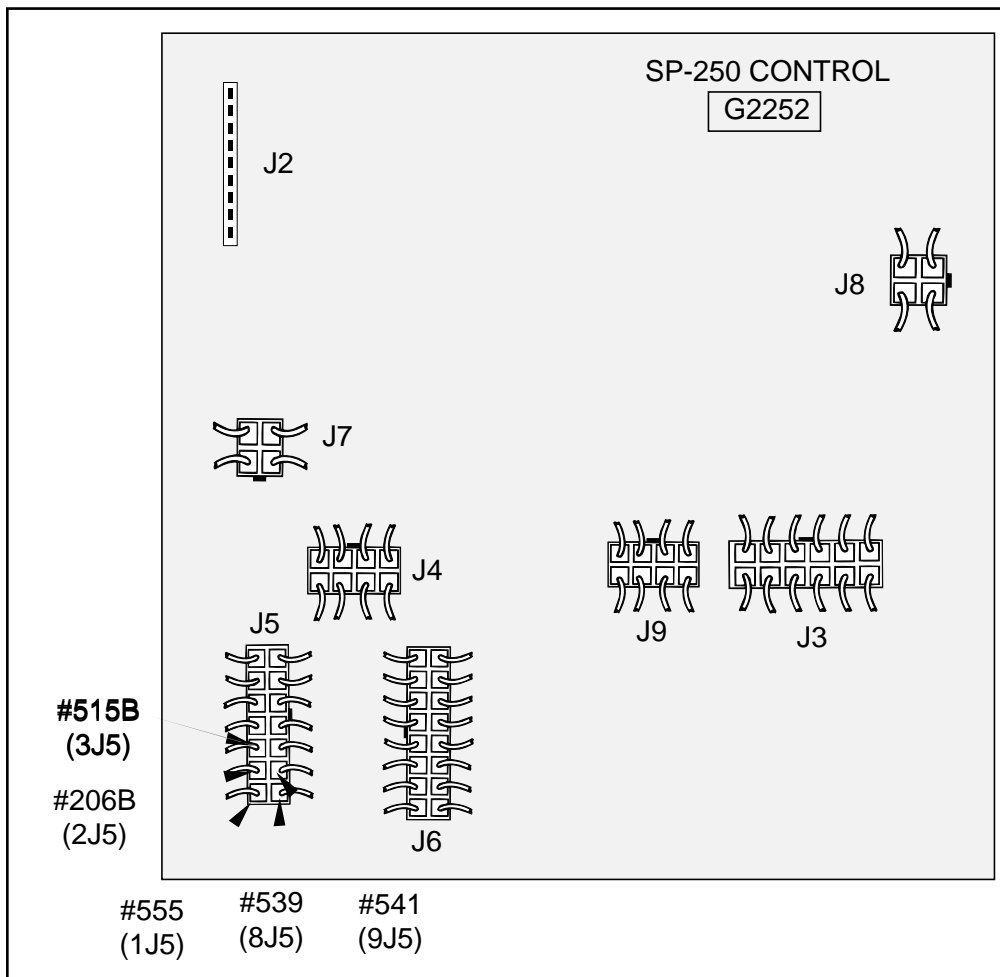

FIGURE F.10A - Plug J5 Location on G2252 PC Control Board.
3. Locate Plug J5 on the G2252 Control Board, or Plug J6 on the G1992 Control Board (Code 9402 only).. See Figures F.10A and F.10B.
4. Test for 2-25 VDC between lead #539 (positive) and lead #541 (negative) to determine if the correct armature voltage is being supplied. See Figure F.10A or F.10B.